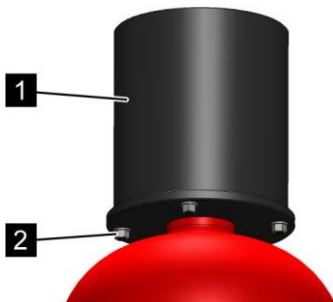

Fig. 60: Removing the protective valve cap
3. ➤ Unscrew the threaded unions (Fig. 60/2) on the underside of the protective valve cap (Fig. 60/1).
4. ➤ Remove the protective valve cap (Fig. 60/1) and keep it in a safe place for return transport of the extinguishing agent container.